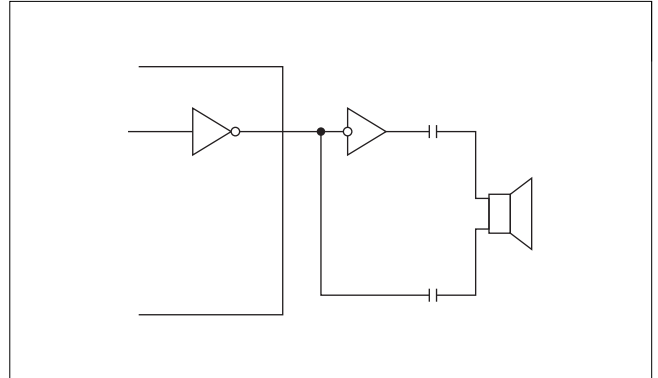

Fig. 11 Example of BTL Drive Circuit by 1-port Output IC for Buzzer
- ③ In case that is driven by IC directly like as Fig. 11, input voltage of Piezoelectric sound components should be twice larger by BTL (Bridge Tied Load) drive circuit Involved an inverter.